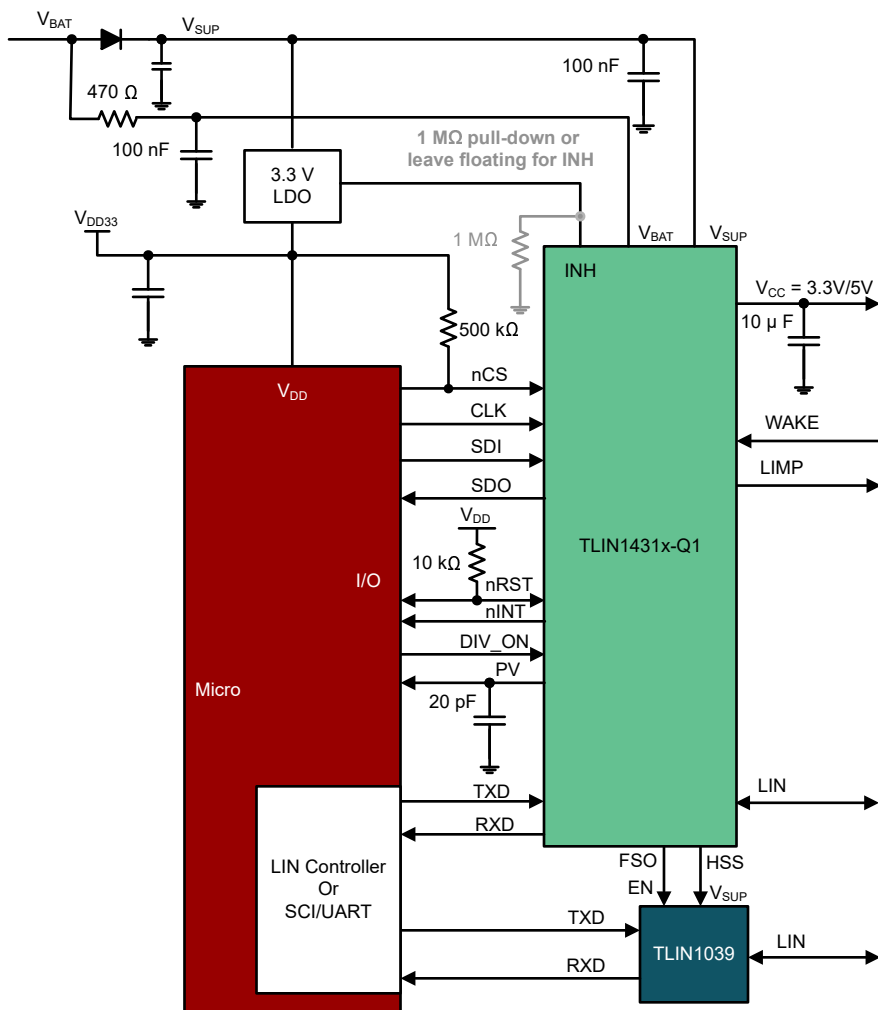

Figure 8-19. Channel Expansion: LIN Transceiver
- Two LIN transceivers by using a simple eight pin LIN transceiver (see Figure 8-19)